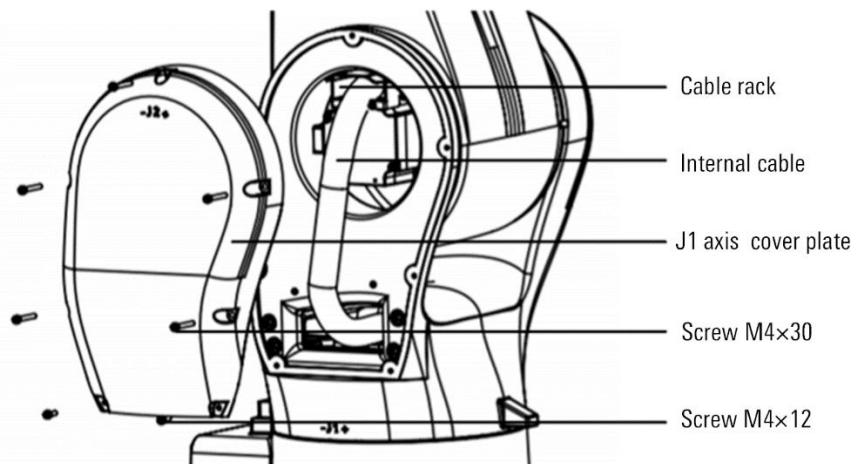

Figure 12-2 Check and repair the shoulder internal cable
- Step1. Remove the cover plate of J1 axis manipulator, as shown in Figure 12-2;